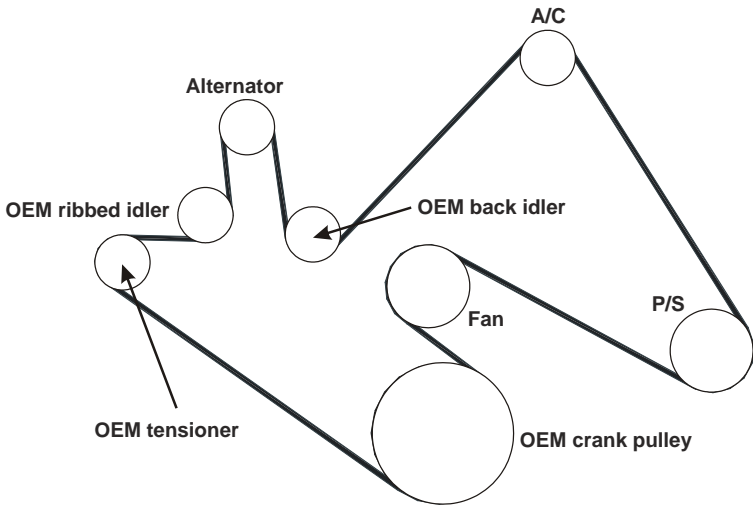
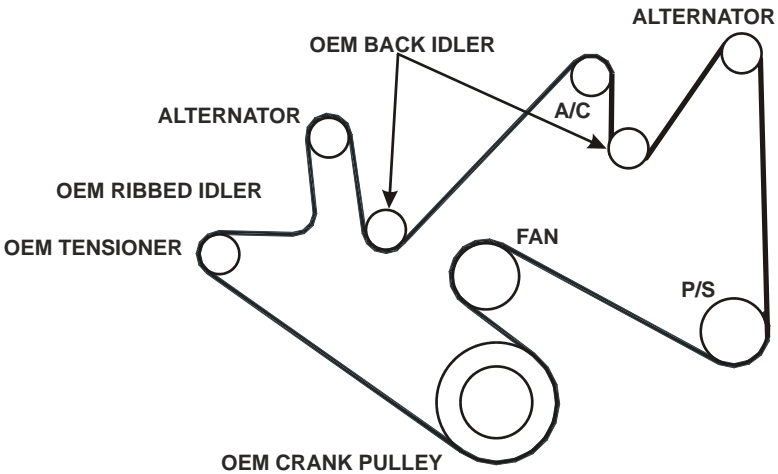

Figure 2.3
Figure 2.4
- On single alternator trucks, install the supplied replacement for the OEM belt (Figure 2.3). On dual alternator trucks, install the OEM belt (Figure 2.4).